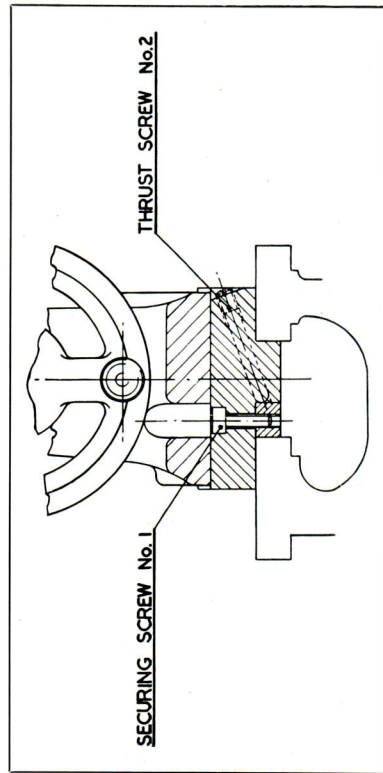

Fig. 42
Refer to Fig. 42. Release gib securing screws (1) and retighten until just nipped. Adjust thrust screws (2) just sufficiently to remove all trace of play of the tailstock relative to the bed shears, but without causing undue friction. Retighten gib securing screws and check for freedom of movement but lack of 'play'.